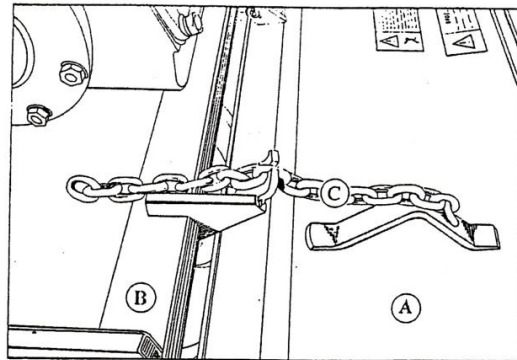

Figure 16. Adjustable trailer
The adjustable trailer has other tasks besides protecting the driver. The trailer (A) is hung on the upper lining (B) from the back of the small box (see figure 16), it has a chain holder (C in figure 16). This chain is used to adjust the height of the trailer.